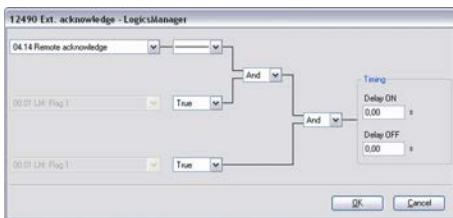

Fig. 181: LogicsManager function "Ext. acknowledge"
3. ➤ Configure the LogicsManager function "Ext. acknowledge" as shown in ( Fig. 181).